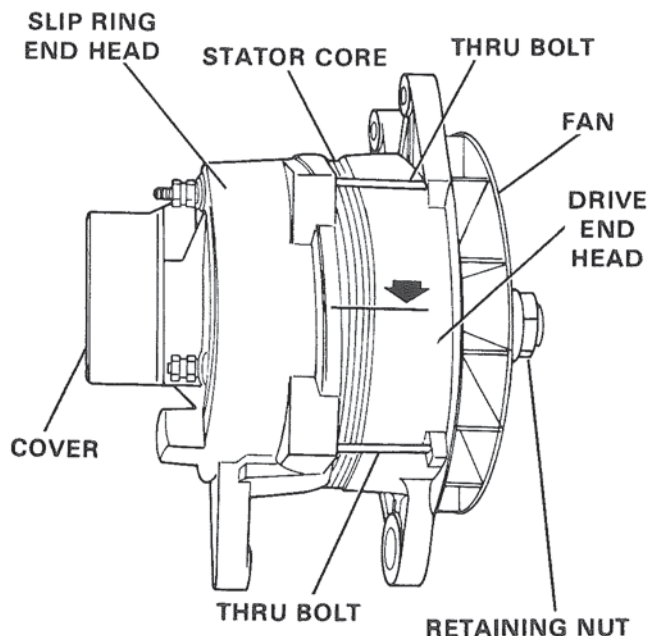

Figure 30. Marking for Reassembly.
1. Before disassembling, mark slip ring end head, stator core and drive end head to be sure they are reassembled in the proper position. Figure 30.
3. Remove four (4) through bolts. Tap drive end head lightly to separate drive end head and rotor, as an assembly, from stator and slip ring end head.